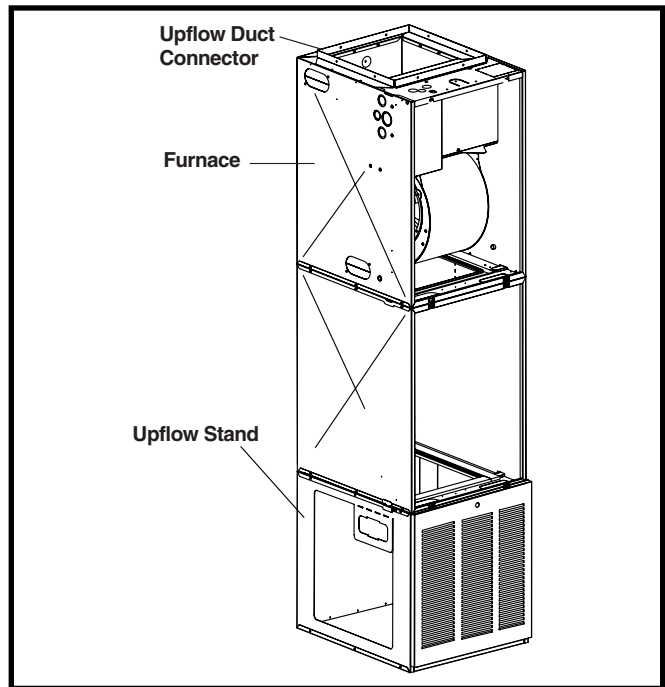

Figure 13. Over-the-Floor Return Air System with Upflow Stand
2. Use optional upflow stand (refer to the technical specifications literature for part number) with filters or construct a suitably braced mounting platform in closet. See Figure 13 \(page 9\).
6. Use optional upflow duct connector or field supplied connector to attach furnace to overhead supply duct. See Figure 13.